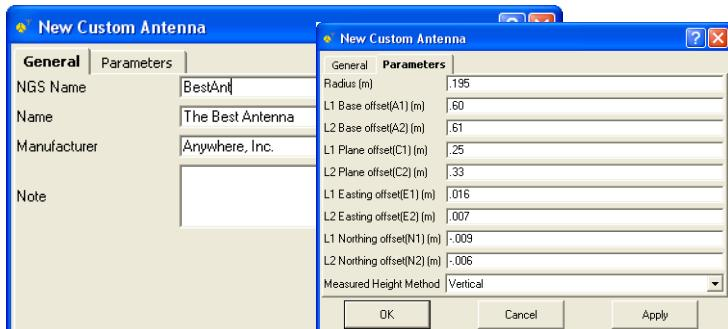

Figure 5-11. New Custom Antennas – General and Parameters Tabs
4. On the *General* tab, edit the *NGS Name*, *Name*, *Manufacturer*, and *Note* fields (Figure 5-11). Then click **Apply** to save the information.
5. Click the **Parameters** tab and enter the *Radius*, *offsets*, and *Measured Height Method* for the antenna (Figure 5-11).